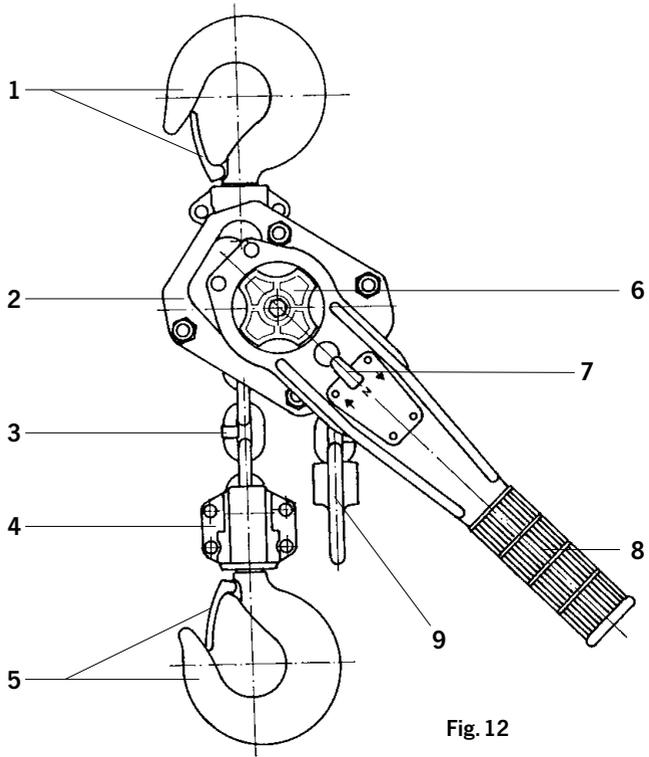

Fig. 12
**ATTENTION:** *The chain stop must always be fitted to the loose end of the chain (idle fall) (Fig. 12).*
**ATTENTION:** *The loose end of the idle fall must always be fitted to the chain stop (Fig. 12).*